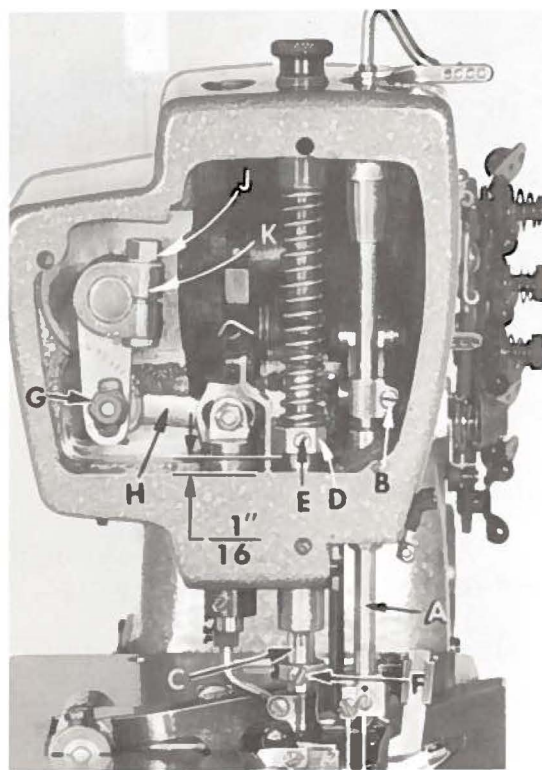
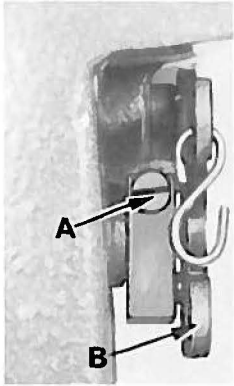

Fig. 4
Fig. 10
Align the needle bar (A, Fig. 4) and set to height, using the proper test pins and test plate of the right gauge. See chart below.
If test plate and test pins are not available, insert a new set of needles (Type and Size as required) and align the needle bar so the needles center in the needle holes of throat plate. To align needle bar, loosen needle bar clamp screw (B, Fig. 4) and turn bar as required. Tighten clamp screw.
The height of the needle bar (A, Fig. 4) is correct when the top of the left 602 stitch needle's eye is  $\frac{3}{64}$  inch below the underside of the front looper, when the point of looper, moving to the left, is even with the left side of this needle. If adjustment is necessary, loosen screw (B) and reposition needle bar (A) up or down as required and retighten screw. Care must be taken not to disturb the alignment of the needle bar while making this adjustment, as the needles are to have equal clearance on both the right and left sides of the needle slots in throat plate.
If adjustment is needed, loosen tension release lever screw (A, Fig. 10), located at the back of the machine and move tension disc separator as required. Retighten screw. After adjustment there should be no binding at any point.
The height of the presser bar (C, Fig. 4) is set correctly if it is possible to remove the presser foot when the foot lifter lever (B, Fig. 10) is fully depressed. Also there should be approximately  $1/16$  inch clearance between lower surface of the presser bar connection and guide (D, Fig. 4) and the bottom surface of head opening in the bed when the foot lifter lever is released and the presser foot resting on the throat plate, with the feed dog down below the throat plate.
Set the presser bar stop collar (F, Fig. 4) so that the presser foot does not contact the spreader when raised.
The arc travel of the spreader should be set at  $9/16$  inch. Measurement is made by placing a scale between the two extreme spreader arc travel points. Adjustment can be made by loosening nut (G, Fig. 4) and moving the connecting link (H) up or down as required to obtain the desired amount of arc travel. Set the connecting link so that its arc travel is equal distance to the center of its arc. This is accomplished by loosening nut (J) and moving the spreader rocker shaft arm (K) to position the connecting link properly.